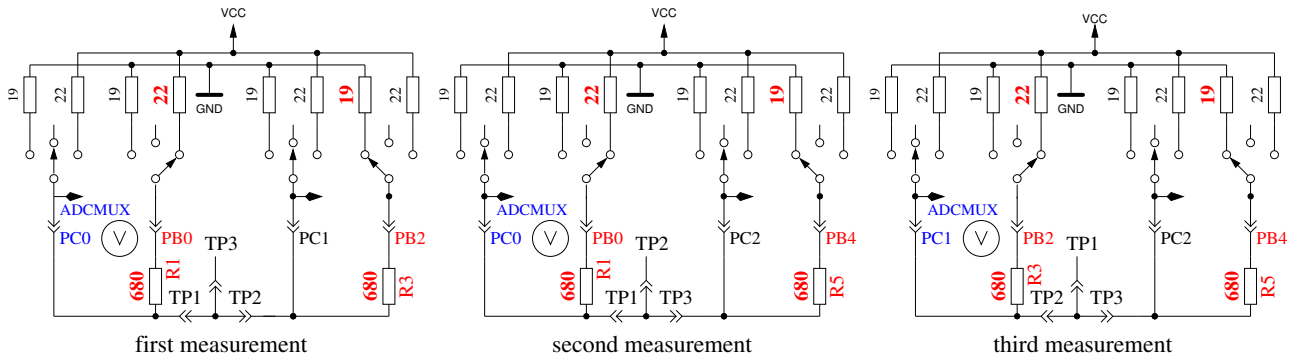

Figure 4.25: Comparison of 680Ω resistors
2. **Comparing of the 680Ω resistors.** In row 1 the cryptic text “+RL- 12 13 23” is shown. Meaning of this is as follows: The RL is the short form of Resistor Low meaning the 680Ω resistors. The 12 stand for: resistor at pin 1 is connected to VCC (+) and resistor at pin 2 is connected to GND (-). The result of this measurement is displayed in row 2 at the first place. In row 1 follows now a “13” which means, that the first connection of measurement 1 is still connected with 680Ω to VCC but that the resistor of pin 3 is connected to GND. The result is displayed in the middle place of row 2. The last measurement of this test “23.” means that now the resistor at pin 2 is connected to VCC (+) and the resistor of pin 3 is connected to GND. The result of measurement is displayed at the last place of LCR row 2. Please remember, that the resolution of the ADC is about 4.88mV! The measurement situation is also shown in figure 4.25. All these combinations with respect to the internal resistance of the pins should result to: